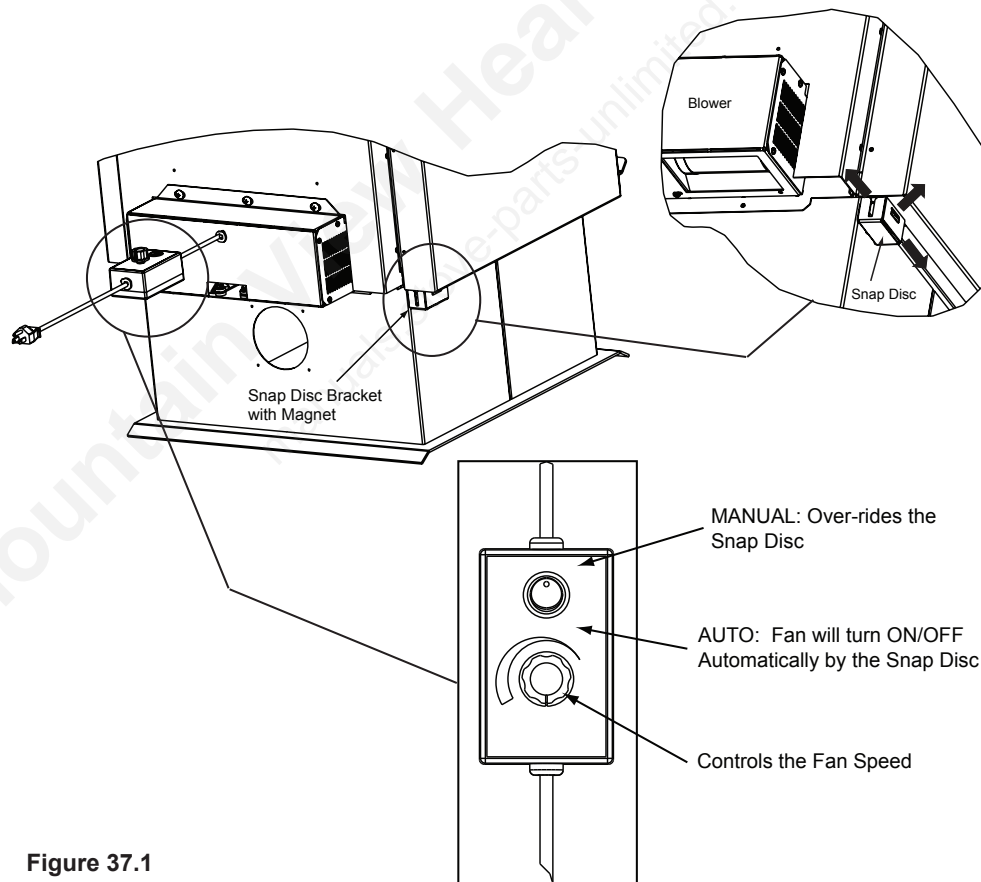

Figure 37.1
3. Place the bracket containing the snap disc and magnet under the bottom left rear corner as shown in **Figure 37.1**.